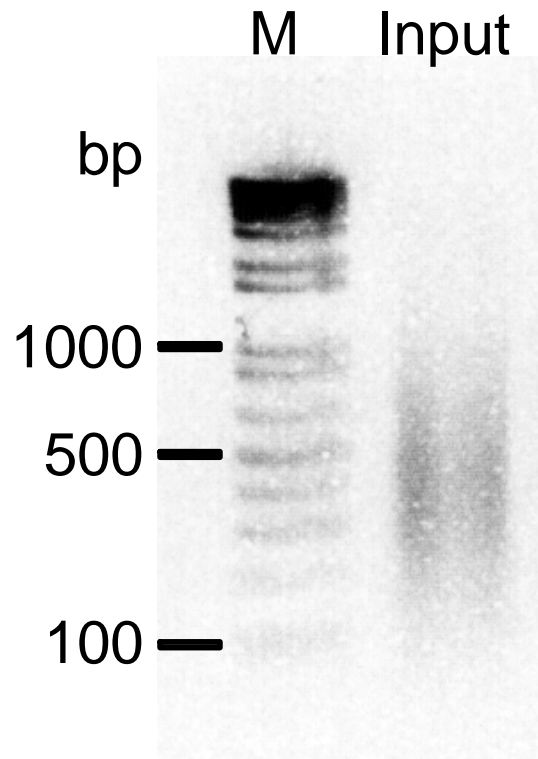

Figure 1. 1% agarose gel stained with EtBr. Input: 5 µl of input fraction. M: 100 bp ladder marker.
5. Shear DNA by sonication to approximately 100-1000 bp within an eppendorf tube. (See figure 1).